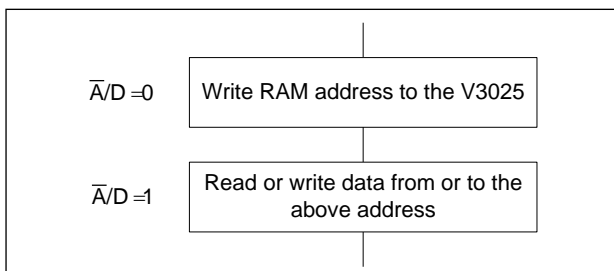

Fig. 11
Data transfer is in 8 bit parallel form. All time data is in packed BCD format with tens data on lines AD7-4 and units on lines AD3-0. To access information within the RAM (see Fig.10) first write the RAM address, then read or write from or to this location. Fig.11 shows the two steps needed.
The communication sequence shown in Fig.11 is re-entrant. When the address is written to the V3025 (ie. first step of the communication sequence) it is stored in an internal address latch. Software can read the internal address latch at any time by holding the  $\bar{A}/D$  line low during a read from the V3025. So, for example, an interrupt routine can read the address latch and push it on to a stack, popping it when finished to restore the V3025.
**Note:** Commands are only valid as commands when the  $\bar{A}/D$  line is low. Writing F2 hex with the  $\bar{A}/D$  line high, as in the last box of Fig. 11, serves only to activate the V3025 write pin which determines the direction of transfer.